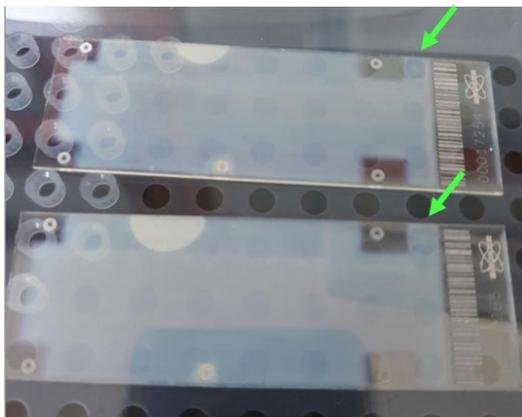

Figure 3-5 Area for MS calibration, with example of Peptide Calibration Standard II spread in the area.
- The top right area of the slide is used for MS calibration (Figure 3-5). This area is approximately 5 mm x 5 mm in size. Please spot 0.5-1.0 μ l of your application-appropriate calibrant in the position and spread over as much of the area as possible.